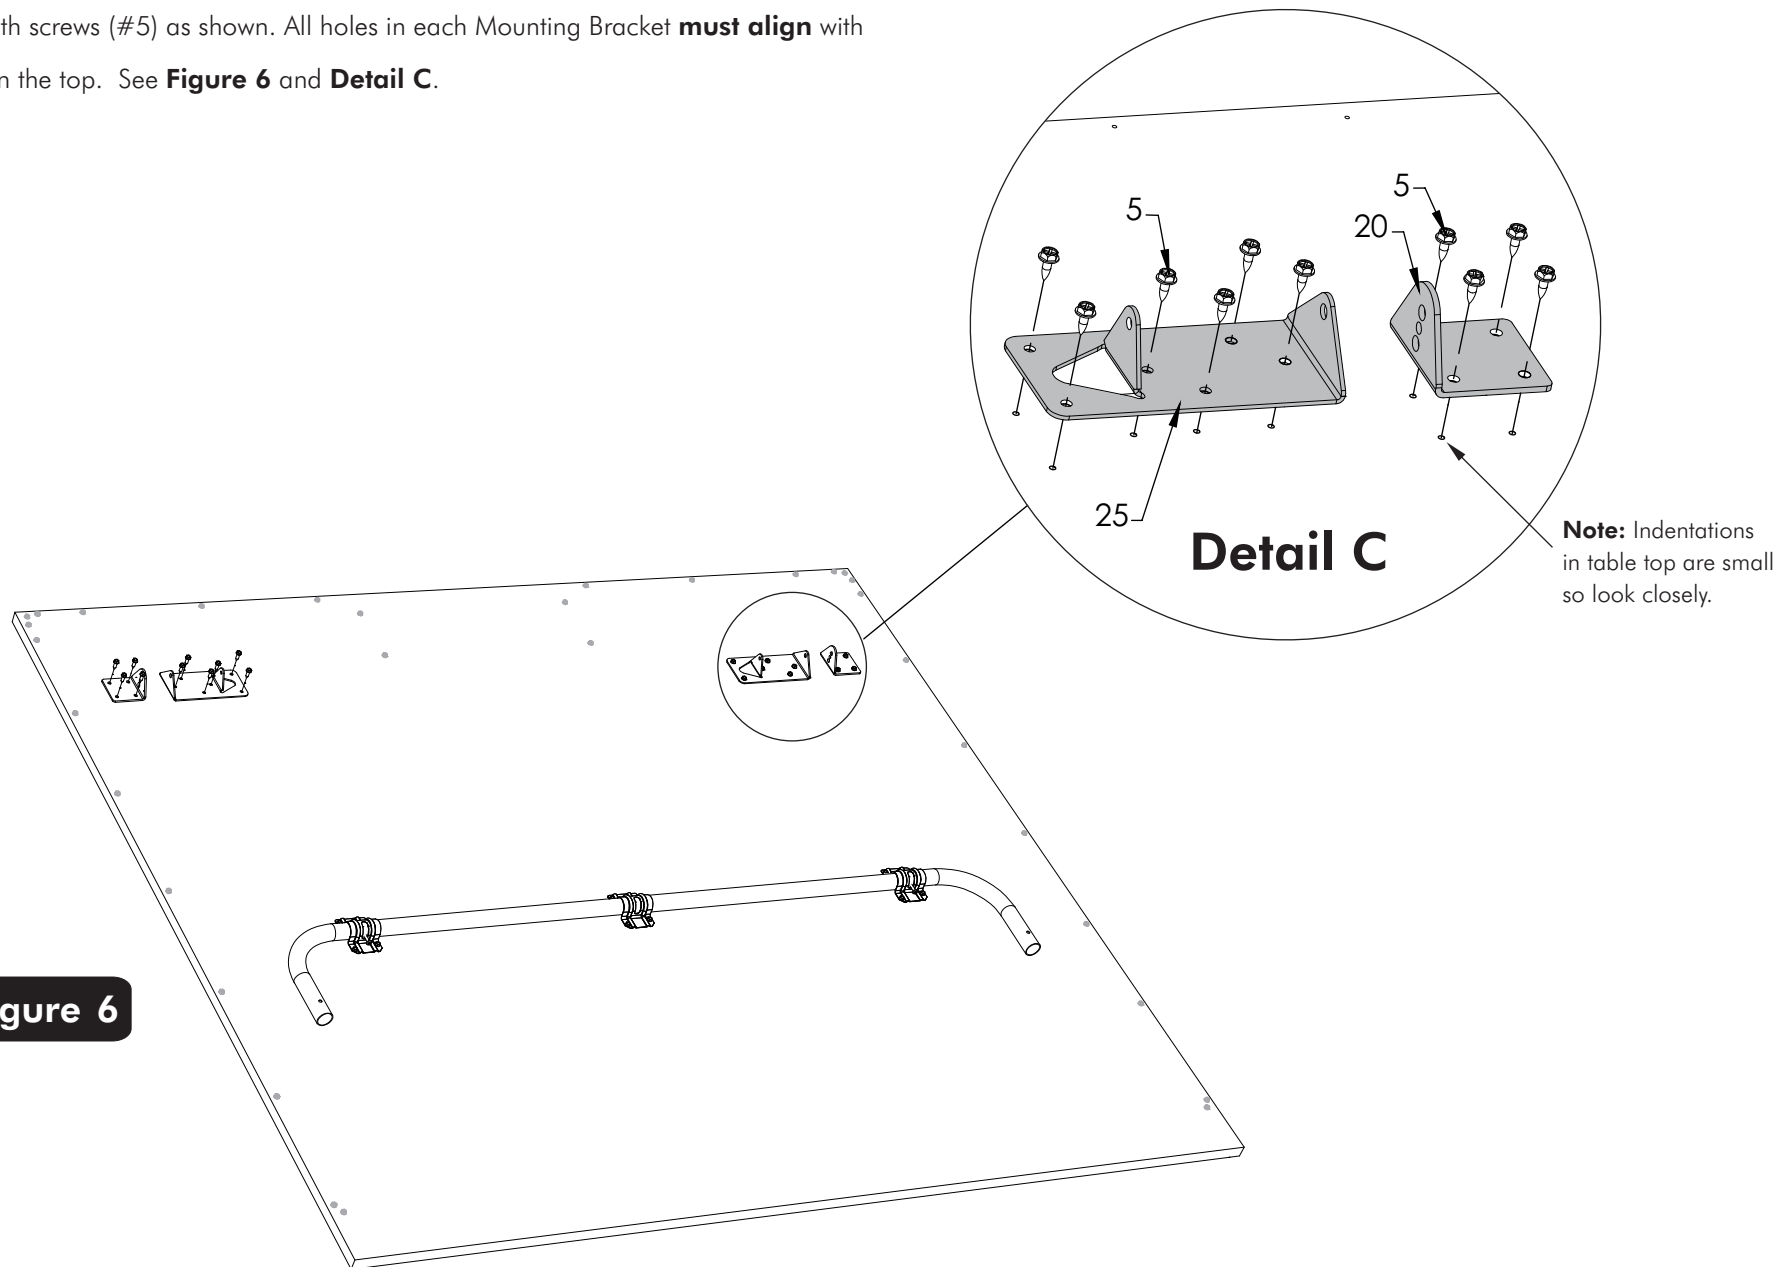

Figure 6
10. Assemble parts to the bottom of the table top with Screws (#5) as shown in **Figure 6, Detail C**.
Align the holes in the Mounting Brackets (#25) & (#20) with Indentations in table top assembly and secure with screws (#5) as shown. All holes in each Mounting Bracket **must align** with Indentations in the top. See **Figure 6** and **Detail C**.